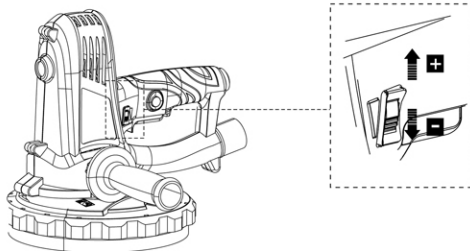

Fig. 7
- > Limit the maximum speed using the speed dial (2) (Fig. 7).
- > Turn the speed dial (2) upward to increase the maximum speed. A higher setting is suitable for sanding with fine-grained sanding papers to achieve a fine finish.
- > Turn the speed dial (2) downward to decrease the maximum speed. A lower setting is suitable for sanding with coarse-grained sanding papers to clean plaster and water stains from work surfaces.